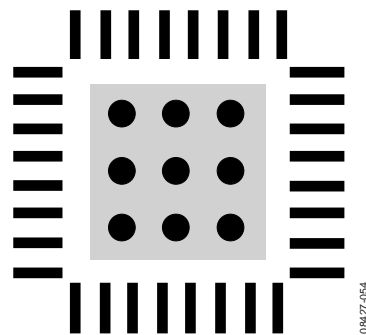

Figure 55. Exposed Pad Layout Example, Top View
- Vias should be placed to connect all layers of copper, allowing for efficient heat and energy conductivity. For an example, see Figure 55, which has nine vias arranged in a 3 inch \times 3 inch grid in the pad area.